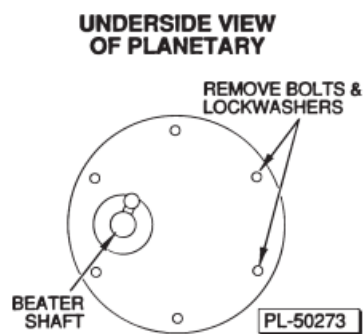

Fig. 7
Model V1401 (Figs. 7, 8)
2. Remove the two 1/2" Bolts and Lockwashers which are opposite the beater shaft (Fig. 7) on the underside of the Planetary. Discard the Bolts and Lock-washers.